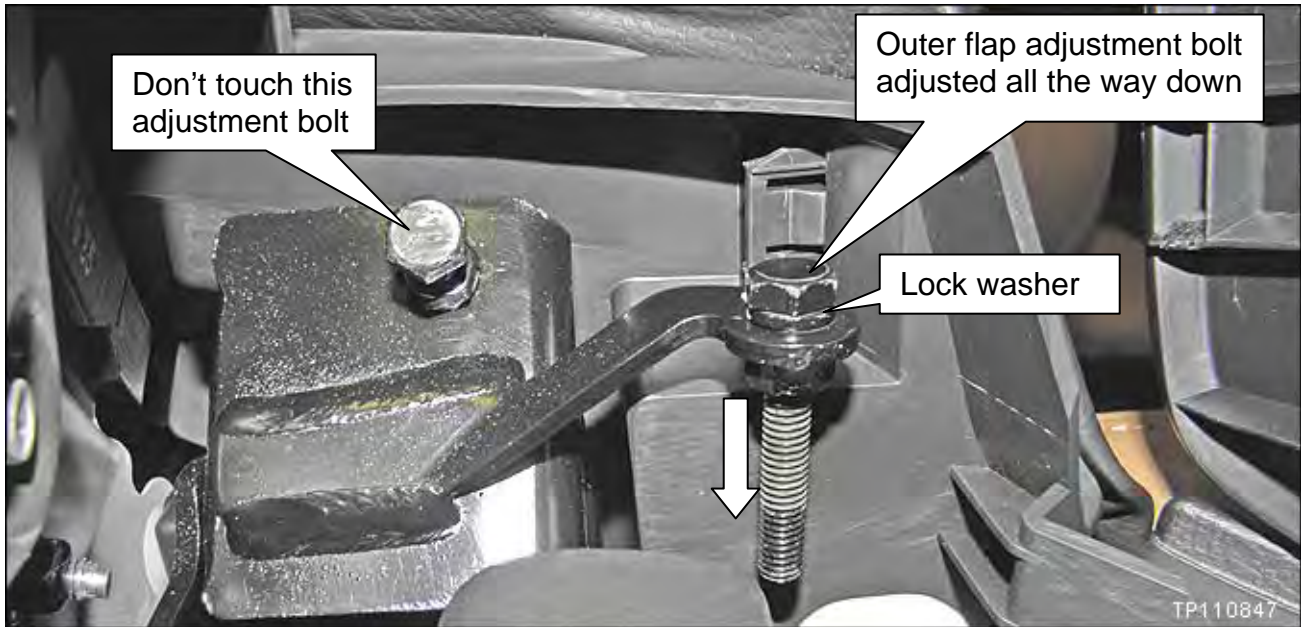

Figure 4
5. Reinstall the outer flap adjustment bolt **with lock washer** (see Figure 4).
6. Screw the outer flap adjustment bolt all the way down as shown in Figure 4 and torque to 5.4 N•m (0.55 kg-m, **4 ft-lb**).